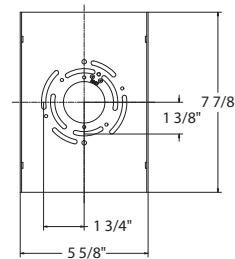

Fig. 3 Switch
3. Remove the back plate screws (B) and take out the wall plate.
6. Fasten the crystal using the screw (D) carefully until the crystal and reflector are secured in place. Fasten the cover plate to the fixture body using the screw (C).
- (i) Do not over-tighten screws (D), as this may damage the crystal.
7. Set color temperature at this stage. The fixture can switch between three color temperatures (3000K-3500K-4000K), which can be adjusted to your preference with the switch in the fixture (Fig. 3)